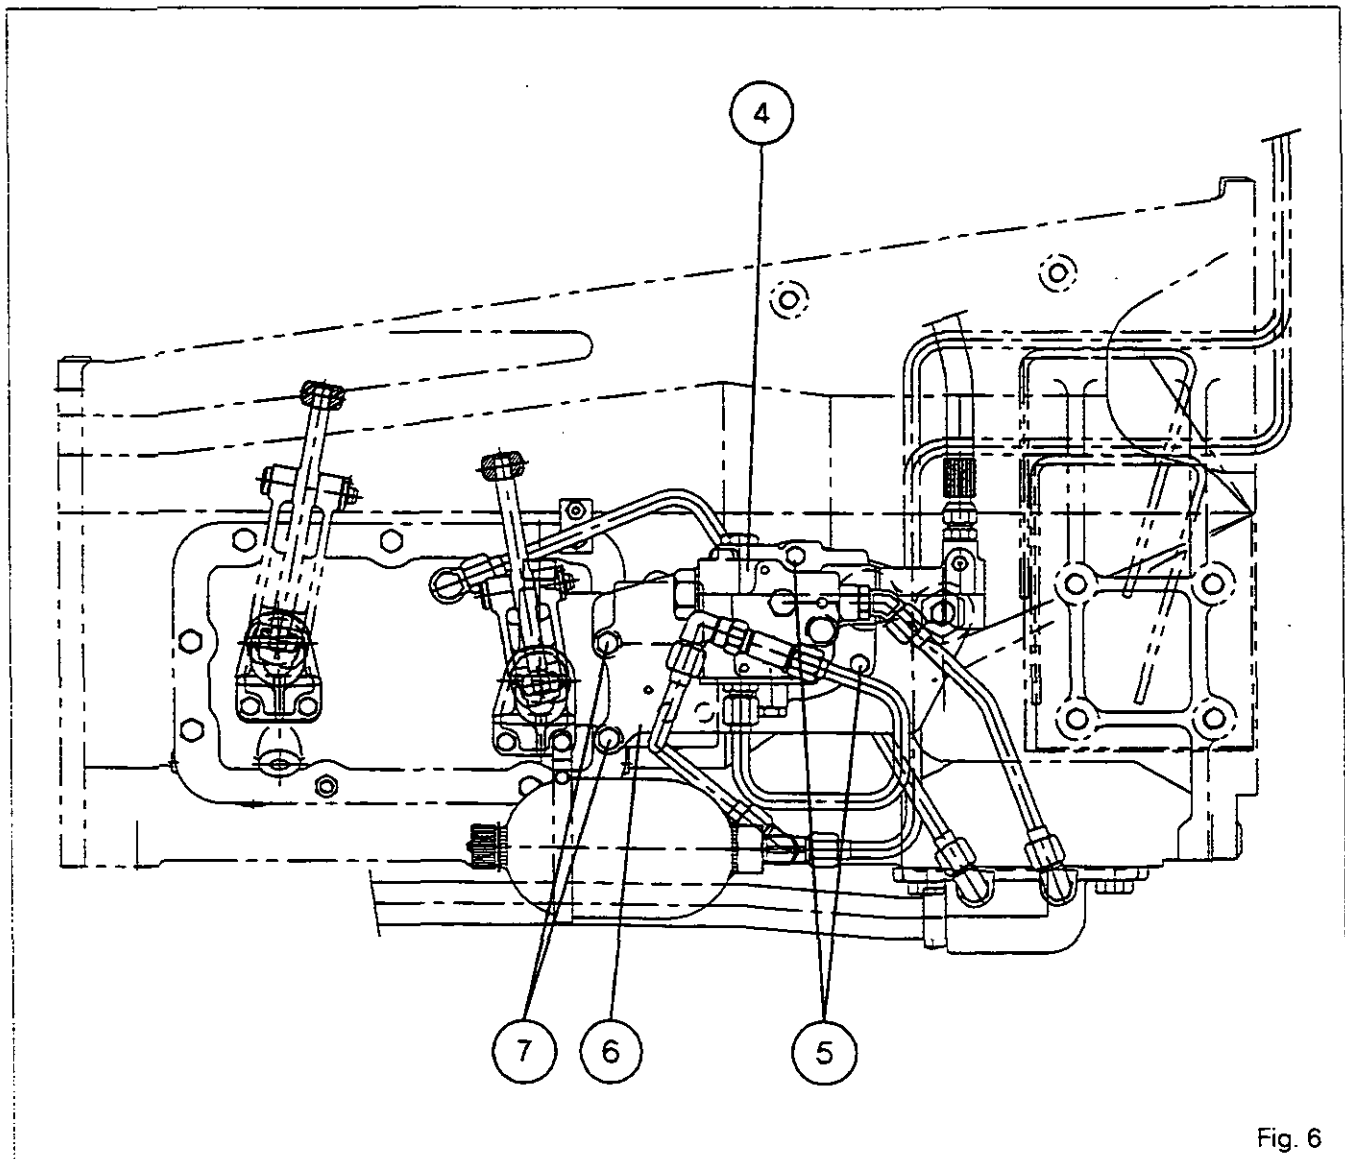

Fig. 6
D. Removing and refitting the control valve (Fig. 6)